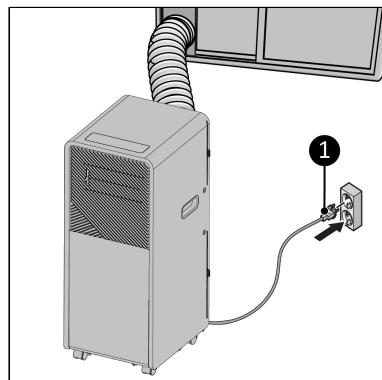

Figure 29.
8. Place the power plug (Figure 29, pos. 1) into an earthed wall socket that is easily accessible. Use an earthed wall socket with a minimum power of 1400 Watt.